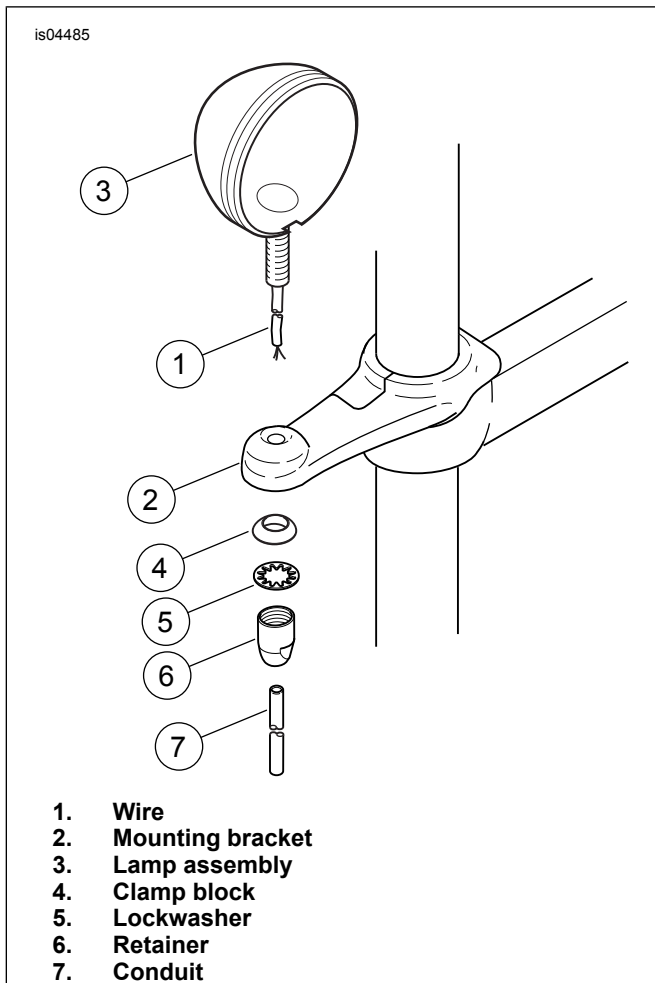

Figure 2. Install Lamps
- See Figure 2. Route the lamp wire (1) through the hole in the mounting bracket (2), and secure the lamp (3) to the bracket using a clamp block (4), lockwasher (5) and retainer (6) from the kit. Tighten the retainer to 22–24 N·m (16–18 ft-lbs).
- See Figure 2. Slide the conduit (7) from the kit over the lamp wire.